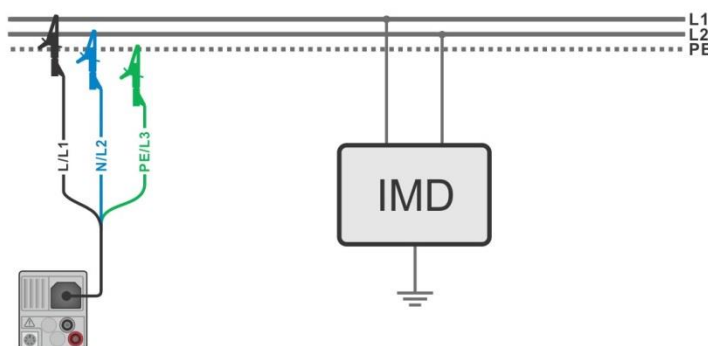
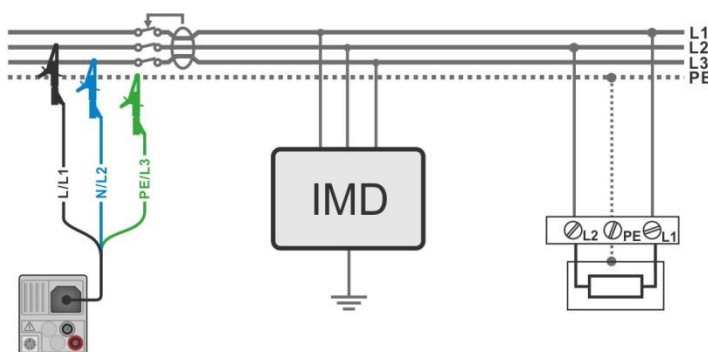

Figure 7.68: Measurement of highest First fault leakage current with 3-wire test lead
Figure 7.69: Measurement of First fault leakage current for RCD protected circuit with 3-wire test lead
- › Connect test leads to the object under test, see **Figure 7.68** and **Figure 7.69**.